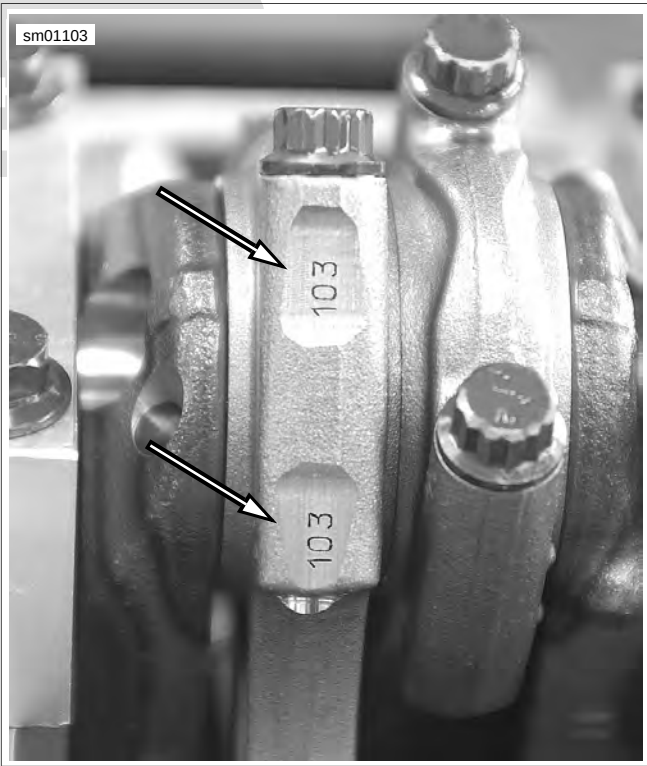

Figure 3-99. Match Rod and Cap
3. See Figure 3-99. Note the numbers on connecting rod and cap. Connecting rods and caps must be used in matched sets.